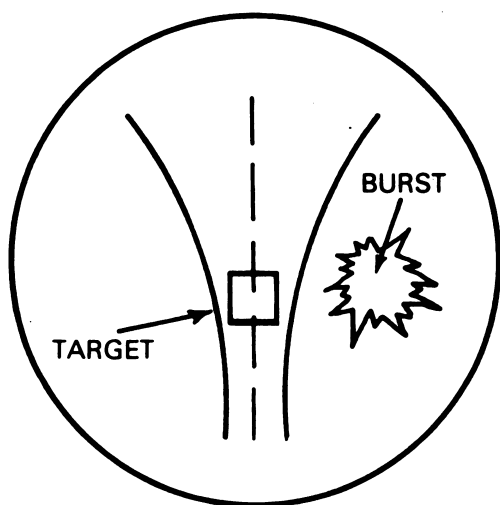

Figure 6a. Burst-on-target aiming technique.
(1) After firing the weapon, hold your original sight picture until the rocket impacts.
(2) Note the point on the sight reticle where the round burst appears (figure 6a).
(3) If you miss with your first round, observe the round burst on your sight and try to move that point onto the target (figs. 6a and 6b). Since the reticle is graduated only out to 500 meters, the burst may appear within the sight but not within the sight reticle itself.